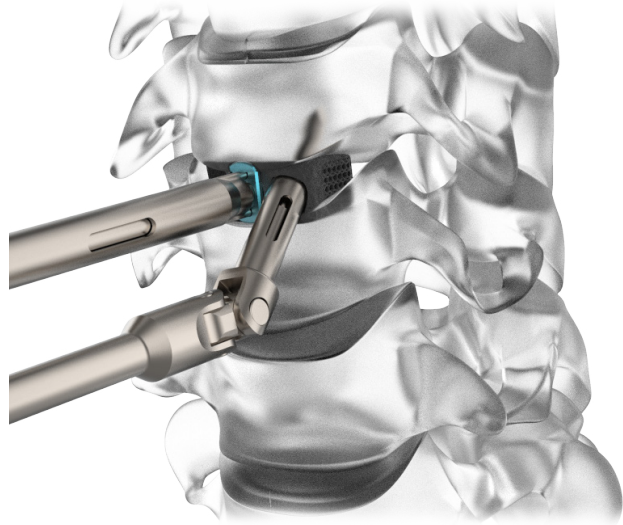

Figure 9g
- Begin the pilot hole with the desired hole preparation instrument(s) based on surgeon preference. Penetrate the cortex with the chosen instrument (Figure 9g). Repeat for the second pilot hole.